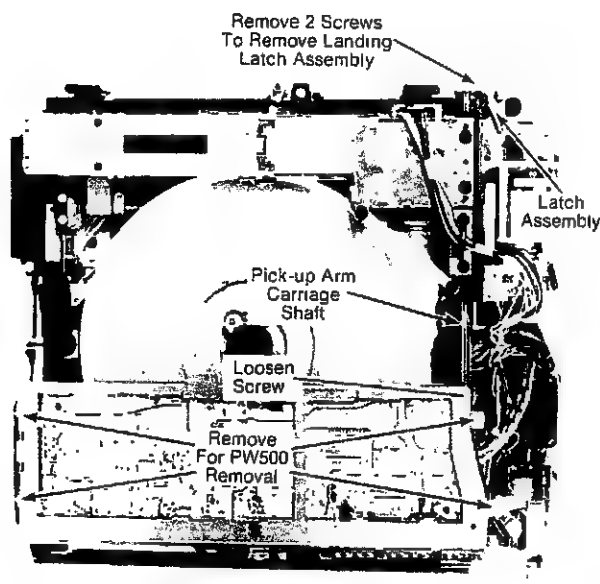

Fig. 2-4. — Pick-up Arm Assembly Removal
3. Remove 2 each 1/4" hex head screws and remove landing latch assembly as a complete assembly (Figure 2-4).